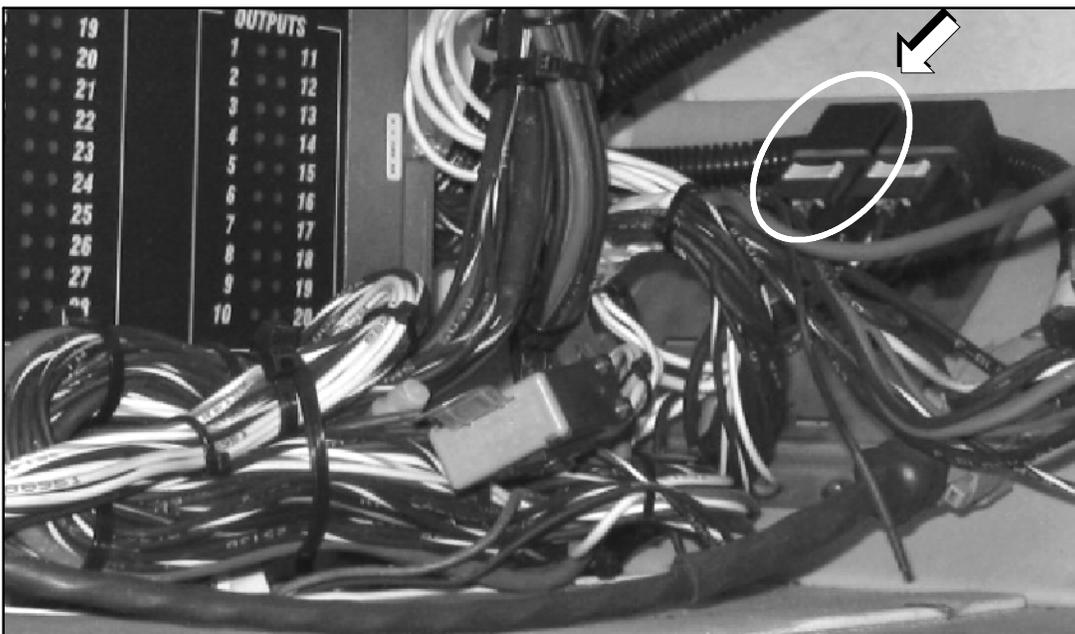

Figure 6. Relay K location in curbside, parcel rack compartment #1.
17. Locate Relay K (refer to Figure 6). Remove circuit 7029 from Relay K cavity 86 and splice with circuit 7029 from the Interior Light Relay Kit, p/n 07-08-4682, using heatshrink, p/n 07-08-4684.